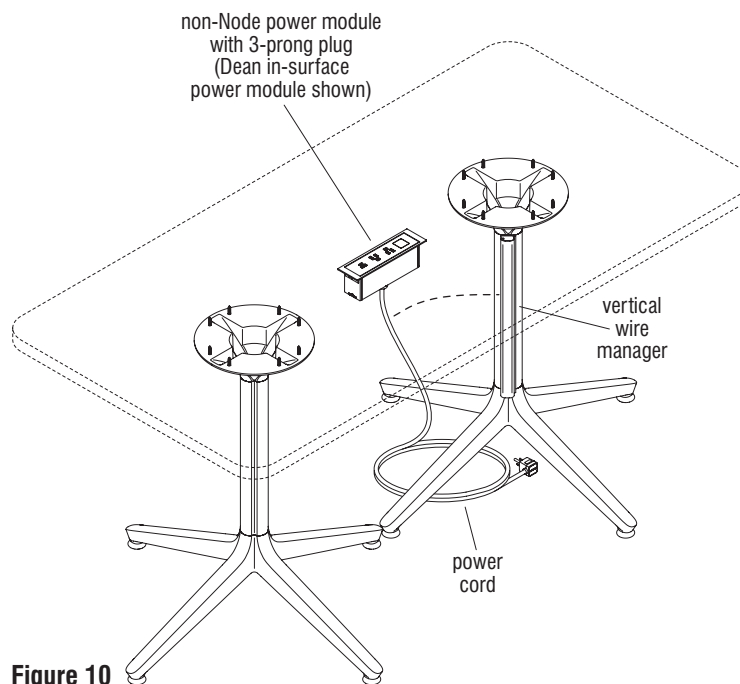

Figure 10
3. Insert the power module cord into the wire manager (Figure 10).